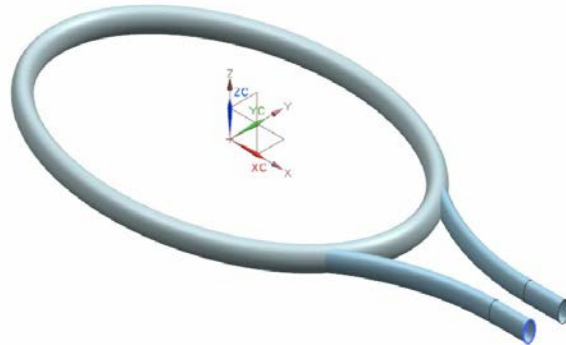

Figure 10-117 The surface model after mirroring the sweep surface
1. Mirror the last created surface by using the XC-ZC plane as the mirror plane. The surface model after mirroring the sweep surface is shown in Figure 10-117.